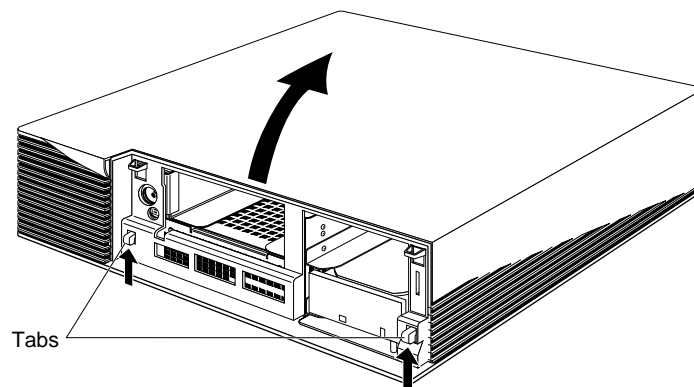

Figure 3-11 Removing the Top Cover From the Indigo² Chassis
- Pull up on the cover and rotate it back and away from the chassis, as shown in Figure 3-11.